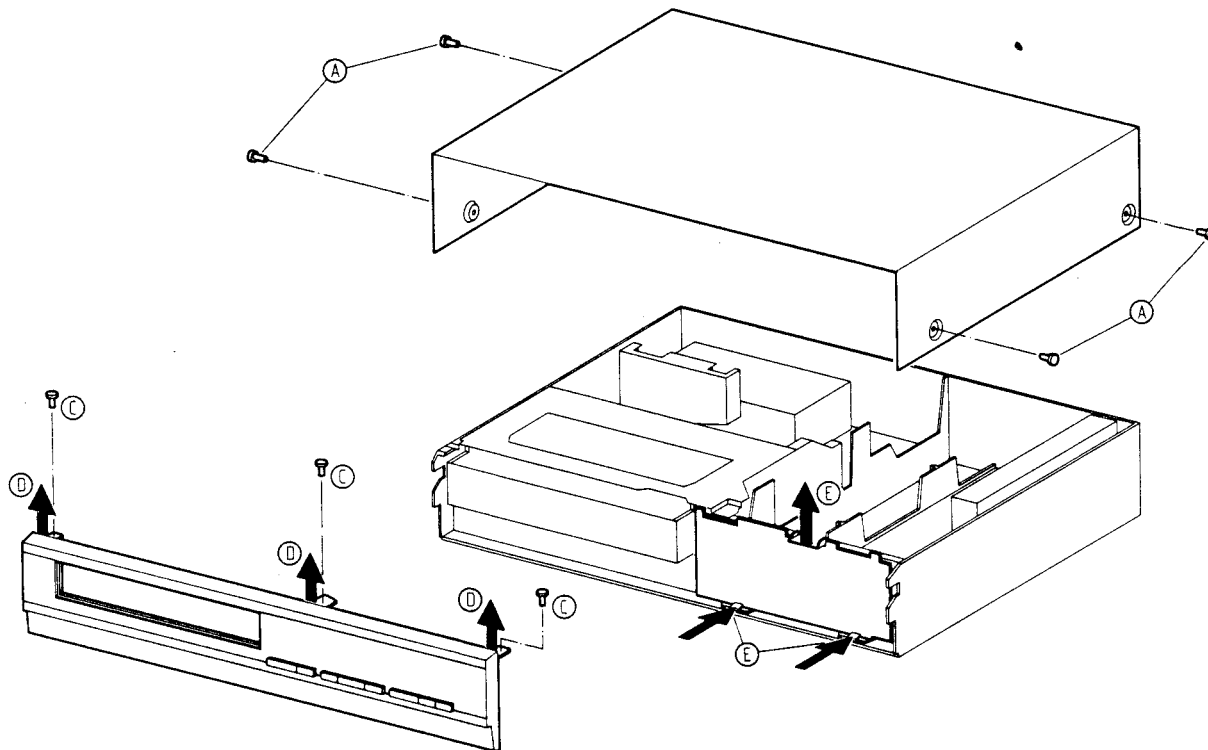

Fig. 1
- 4 Schrauben (A) herausdrehen (Fig. 1).
- Schrauben (C) herausdrehen, Rasthaken (D) lösen und Frontblende nach vorne wegklappen (Fig. 1).
- Remove 4 screws (A) (Fig. 1).
- Remove screws (C), release locking catches (D) and hinge the front panel away from the front (Fig. 1).
- Rastnase (E) lösen (Fig. 1).
- Release the locking catches (E) (Fig. 1).
- Release the locking catches (F) and pull out the bracket (G).
- Release the locking catches (H). For this carefully release the catches with the minimum of force.